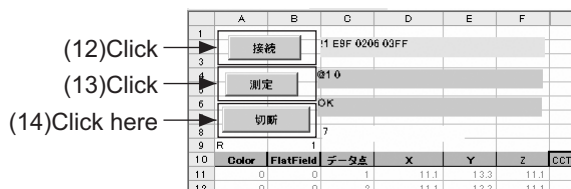

Fig.4
- (14) When the measurement is completed, click [DISCONNECT] to disconnect the system. Refer to Fig.4.
- (15) Confirm if the three graphs shown on the [CHROMATICITY MEASUREMENT(RGB)] sheet are linear. If not, the result is determined to be FAILED.